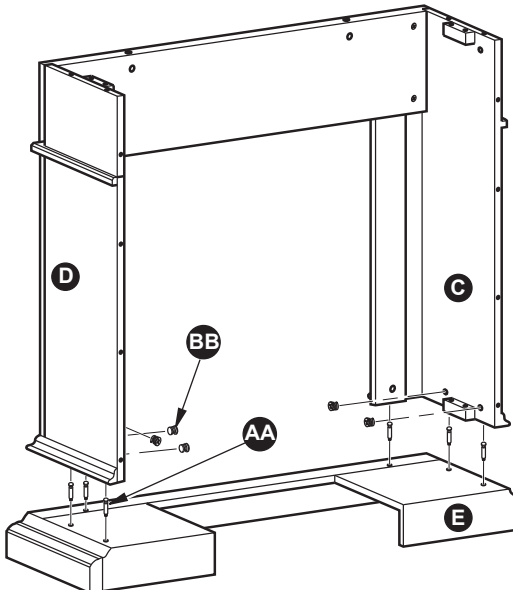

Figure 29
2. Insert 6 Cam Locks (BB) into the Left Side Panel (C) and the Right Side Panel (D). Screw 6 Cam Dowels (AA) into Base (E). Attach Base (E) into assembled frame by tightening the Cam Locks (BB) as shown in Figure 29.